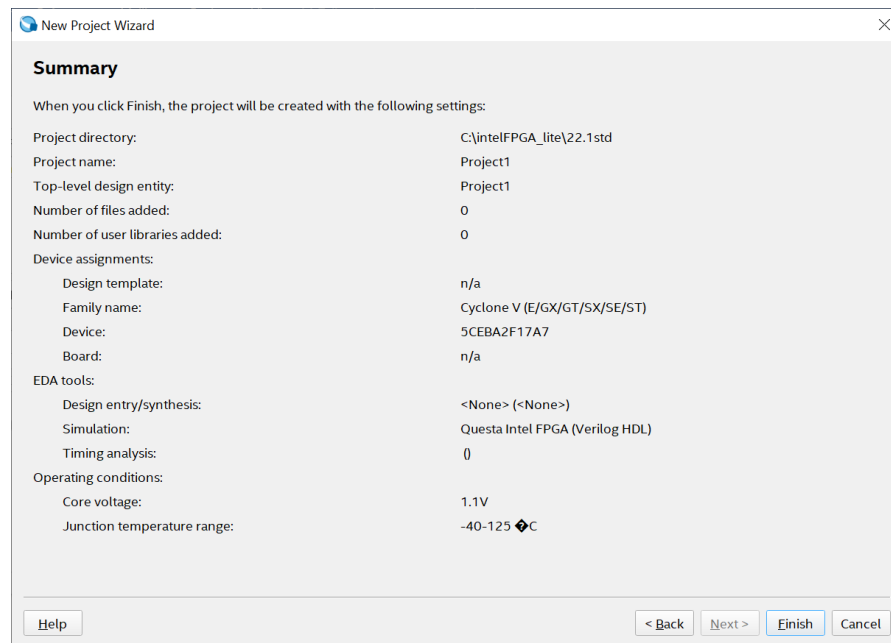
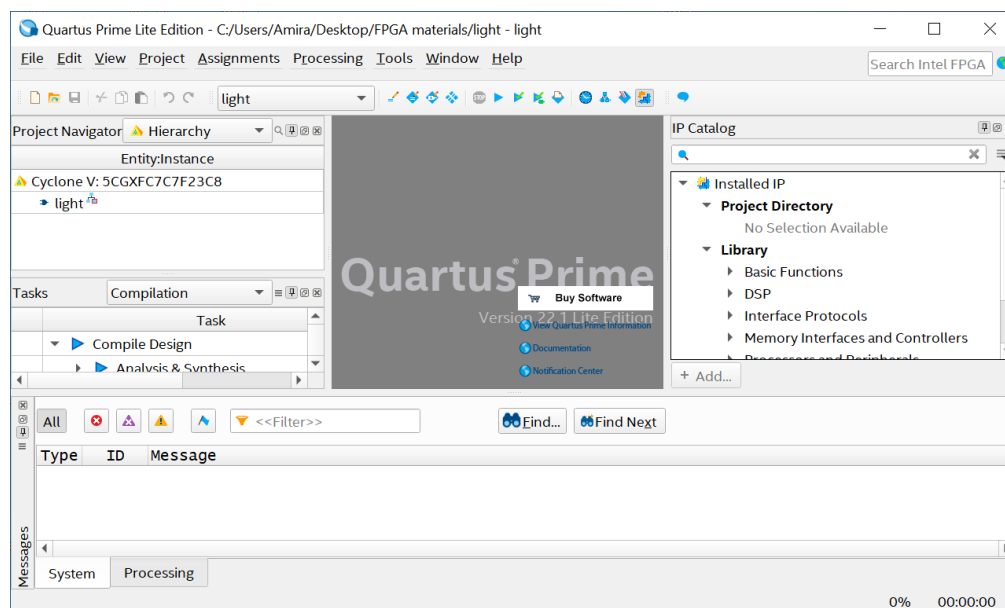

Figure 8. Summary of the project settings.
Figure 9. The Quartus Prime display for the created project.
- The screen in Figure 8 shows a summary of the chosen setting. Press > **Finish**, which returns to the main Quartus window, but with **light** specified as the new project, in the display title bar, as indicated in Figure 9.